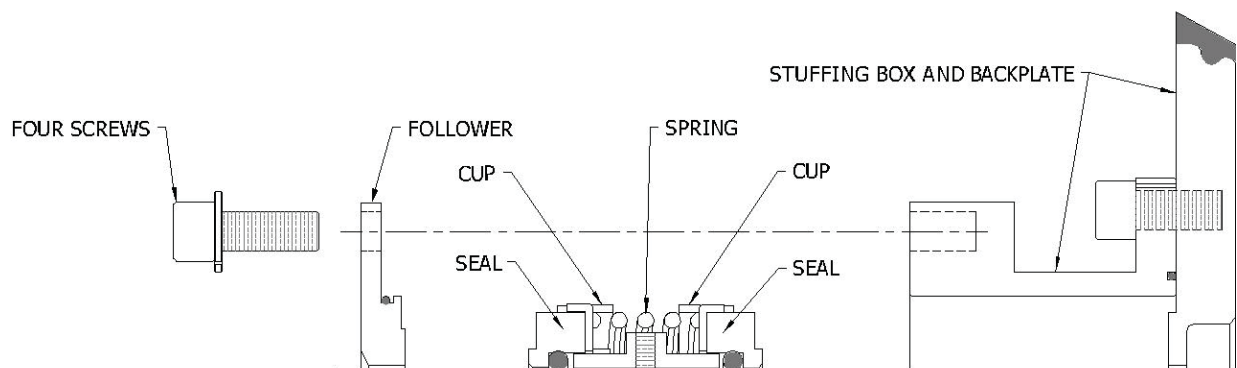

FIGURE 33
6. Assemble the stuffing box and backplate assembly on the shaft and seal parts. (Figure 33)
7. Assemble the follower to the stuffing box with the four screws. (Figure 33)